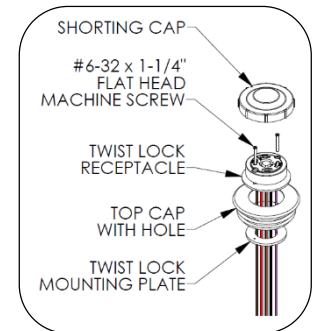

Fig. 5– Install optional twist lock receptacle to top cap
5. Install the top cap on the pole (shipped with the pole). If the unit has a twist lock receptacle, assemble the receptacle and the top cap as shown in Fig. 5 and connect wiring before installing the top cap. Install provided shorting cap or photo-electric control.